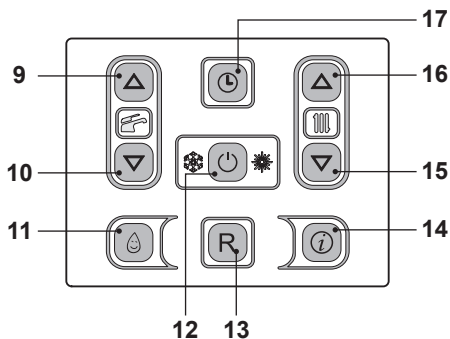

Fig. 2.7
Enter "programming mode" by holding down key 17 for 5 seconds (Fig. 2.7) until the display indicates the  symbol.
Use keys 15 (decrease) and 16 (increase) Fig. 2.7 to set the time, day and date values, using keys 9 and 10 to move from one parameter to the next.
- Press the key 12 for 2 seconds until both '|||||' symbol appear on the display Fig. 2.7.
The output temperature of c.h. water can be adjusted by acting on keys 15 (reduce) and 16 (increase) (Fig. 2.7) from a minimum of about 25°C to a maximum of about 85°C. Press one of the two keys once to display the "set" value. Press again to access the modification.
However, if the ambient temperature is not comfortable, the flow temperature of the heating plant can be increased or reduced by $\pm 15^{\circ}\text{C}$ by acting on keys 15 (reduce) and 16 (increase) (Fig. 2.7).
The heating temperature of the zone valve controlled by a thermostat is configured on the boiler control panel using keys 15 and 16 Fig. 2.7.